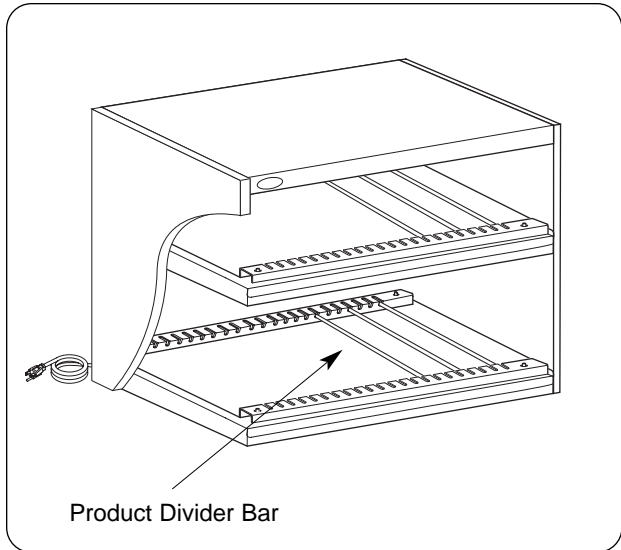

Figure 5. Installing Product Divider Bars
5. This unit is supplied with product divider bars. To install them, simply place the bars in the channels provided. The bars can be readily adjusted to separate the holding areas as needed. (See Figure 5.)